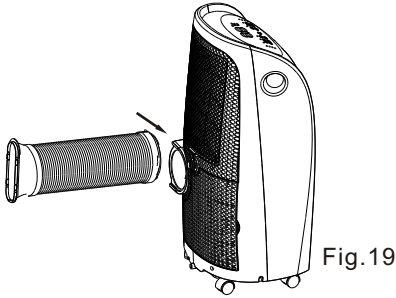

Fig.19
2. Install the flexible Exhaust hose as depicted in Fig.19 .